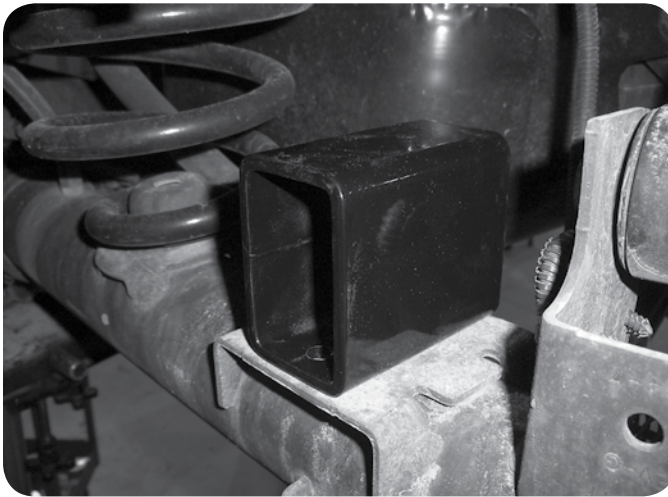

Figure 13
18. Install the remaining bump stop spacer on the passenger's side axle using the existing holes in the axle bump stop pad. Fasten the bump stop to the axle with 5/16" x 7/8" bolts, nuts and 5/16" SAE washers. Torque bolts to 20 ft-lbs. (Figure 13)